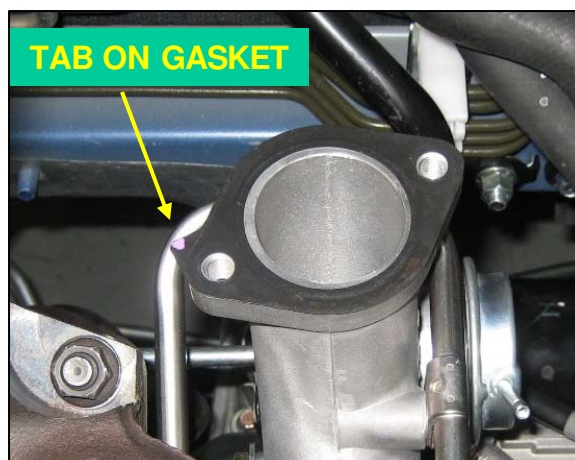

Fig. 11
12. Remove the black metal compressor outlet elbow and its gasket, noting orientation of the gasket. These parts will be reused (2 bolts, 12mm socket). See *Fig. 11*.